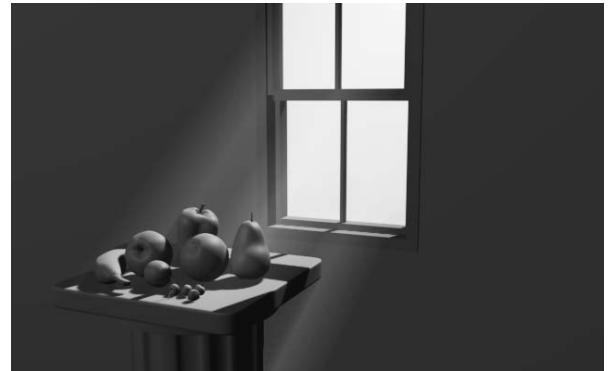

Figure 10.51
- Volume Light will be added to the rollout, as shown here. Render the scene. You should see a render similar to Figure 10.51.